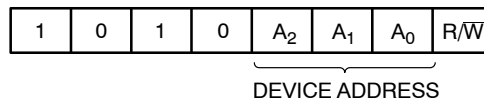

Figure 3. Slave Address Bits
The Master addresses a Slave by creating a START condition and then broadcasting an 8-bit Slave address. For the N24C64, the first four bits of the Slave address are set to 1010 (Ah); the next three bits, A₂, A₁ and A₀, must match the logic state of the similarly named input pins. The R/W bit tells the Slave whether the Master intends to read (1) or write (0) data (Figure 3). The device in WLCSP with 4 bumps responds only to address combination A2A1A0 = 000.